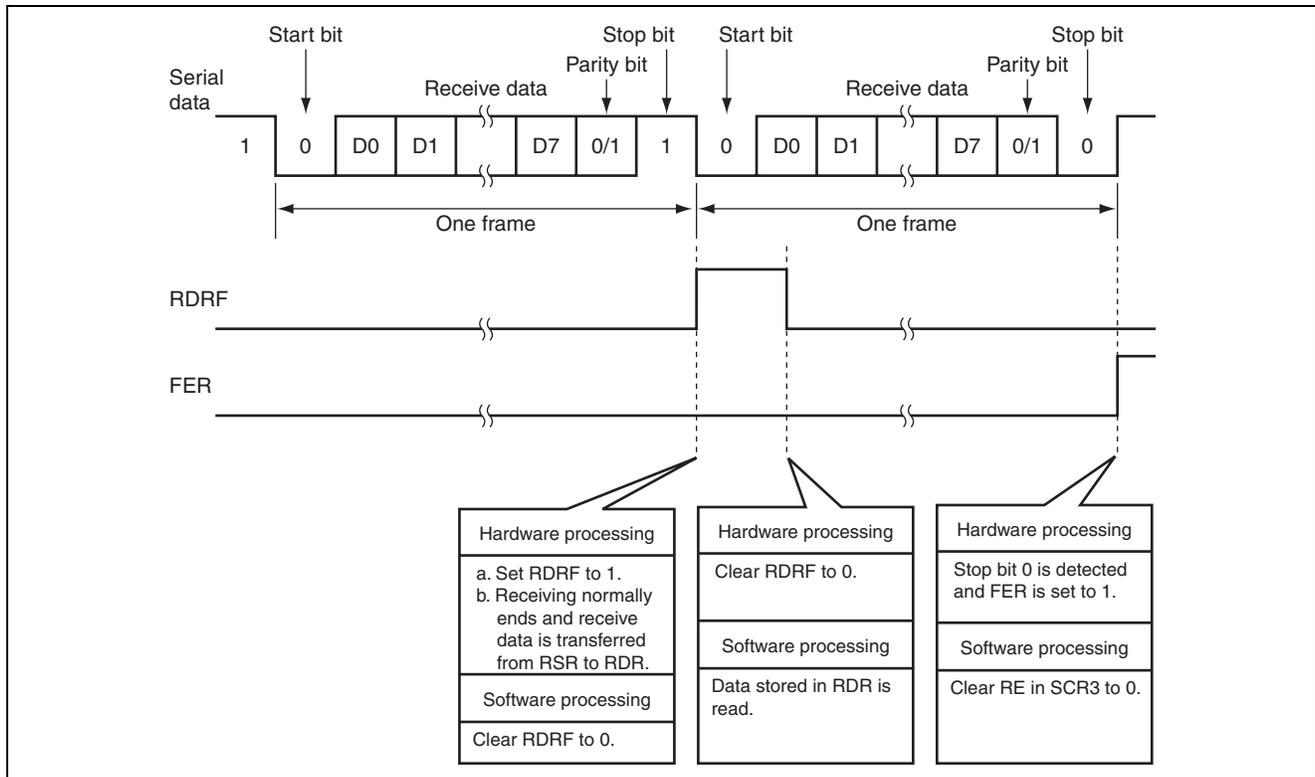

Figure 3.1 Operation Principle of Serial Data Reception in Asynchronous Mode
1. Figure 3.1 illustrates the principle of operation of this sample task. Serial data is received in asynchronous mode by hardware and software processing as shown in figure 3.1.